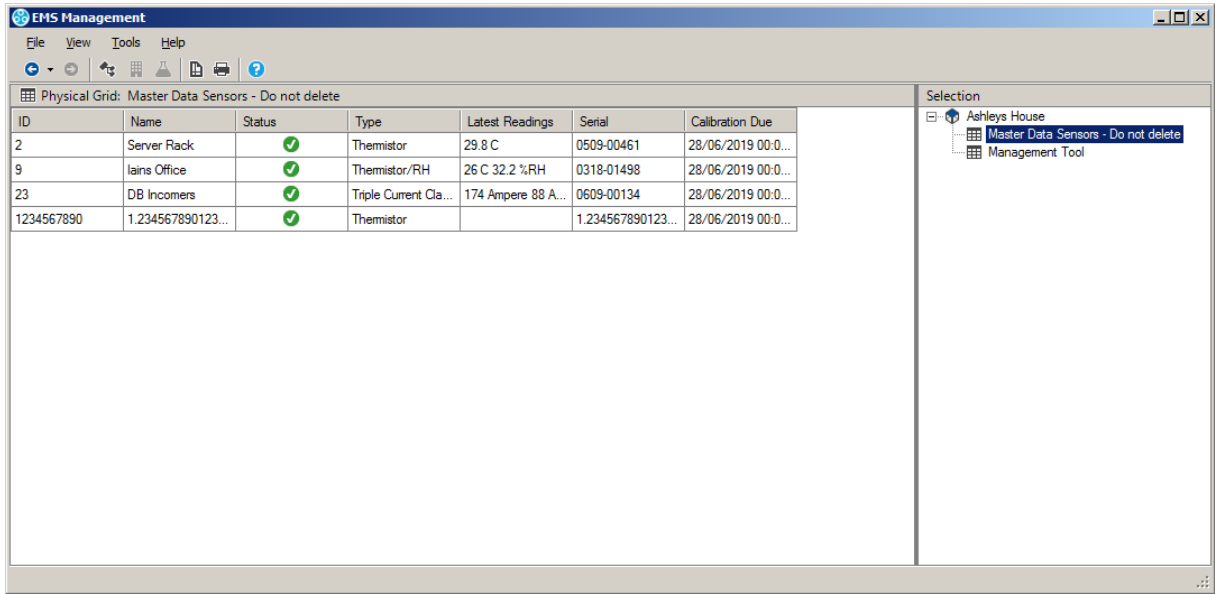

Figure 18
1. From the **EMS Management** window, displayed when the Remote Management Tools have loaded, select the required **Site** and **Grid** from the right-hand **Selection** tree. See Figure 18 below: